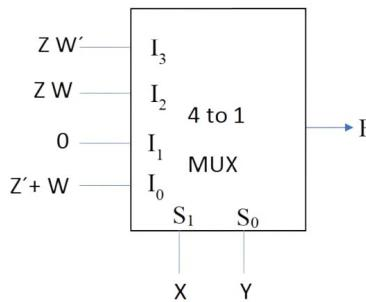

Fig. 4.20: Multiplexer
39. A 4×1 multiplexer with two selector lines is used to realize a Boolean function F having four Boolean variables X, Y, Z and W as shown below in Fig. 4.20. S_0 and S_1 denote the least significant bit (LSB) and most significant bit (MSB) of the selector lines of the multiplexer respectively. I_0, I_1, I_2, I_3 are the input lines of the multiplexer. (GATE IN 2021)